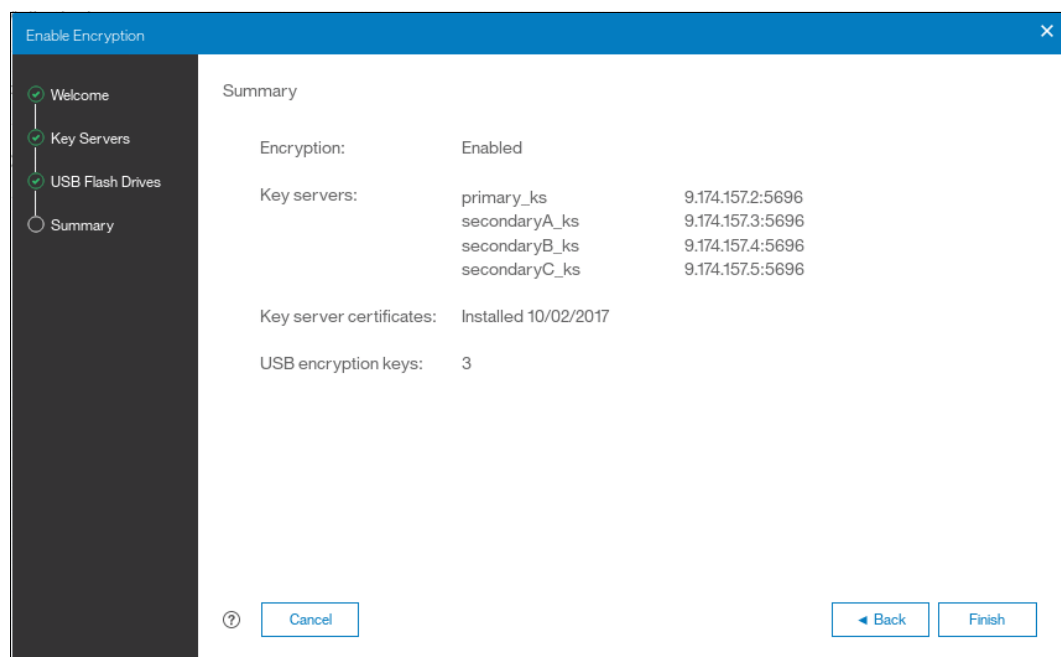

Figure 13-49 Encryption configuration summary in two providers scenario
11. The next screen presents you with the summary of the configuration that will be implemented on the system, see Figure 13-49. Click **Finish** to create the key server object and finalize the encryption enablement.